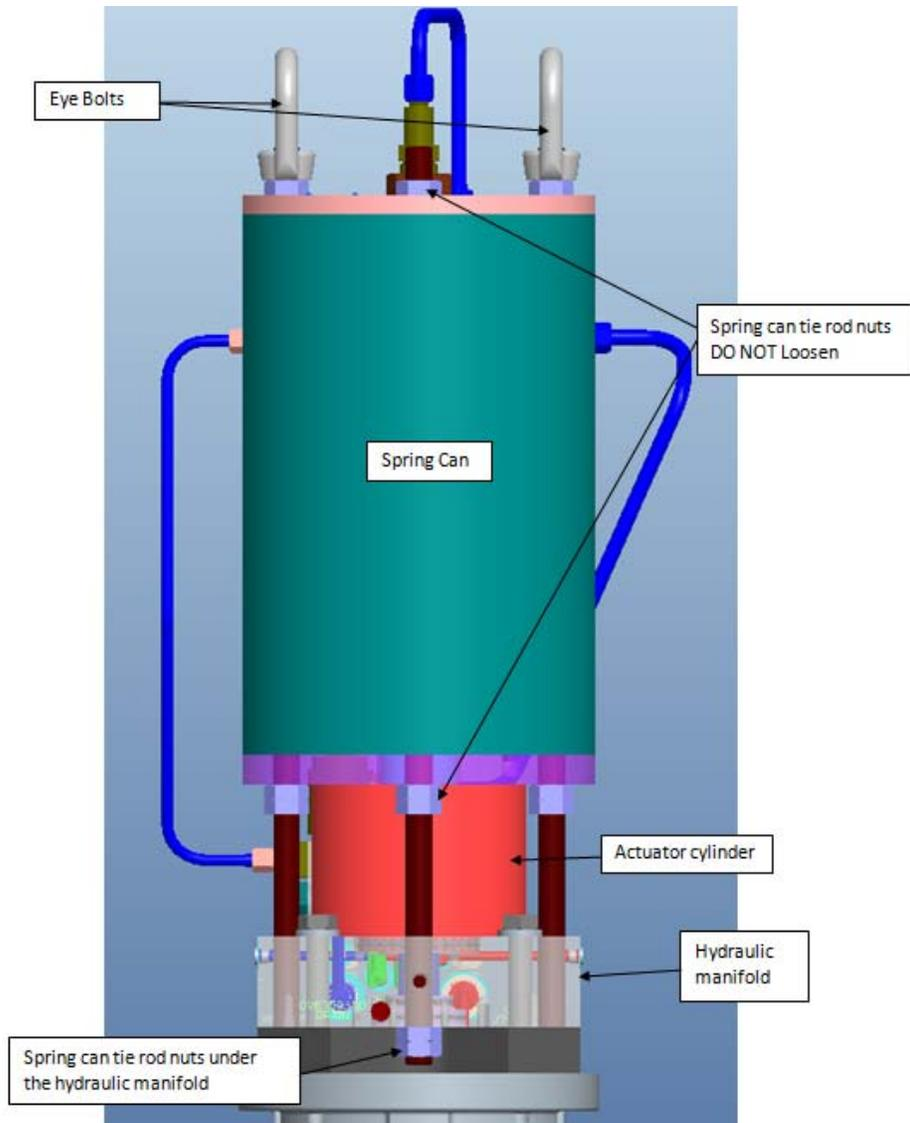

Figure 4-1. Spring Can Tie Rods/Nuts Detail
10. Remove the spring can tie rod nuts under the hydraulic manifold. (see Figure 4-1)